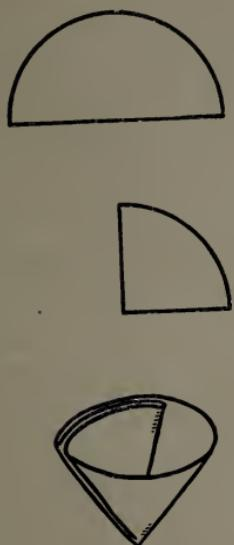

FIG. 4.
3. Filtering.—(a) *To Prepare a Filter Paper.*—Fold the paper along any diameter (Fig. 4), then once at right angles to the first fold. Open the paper so as to form a cone on one side of which there should be three layers and on the opposite side one layer. Fit the folded paper *smoothly* into a funnel,¹ then wet the paper with a few cubic centimeters of distilled water, which is allowed to run out before the material to be filtered is added. The filter paper should never reach quite to the top